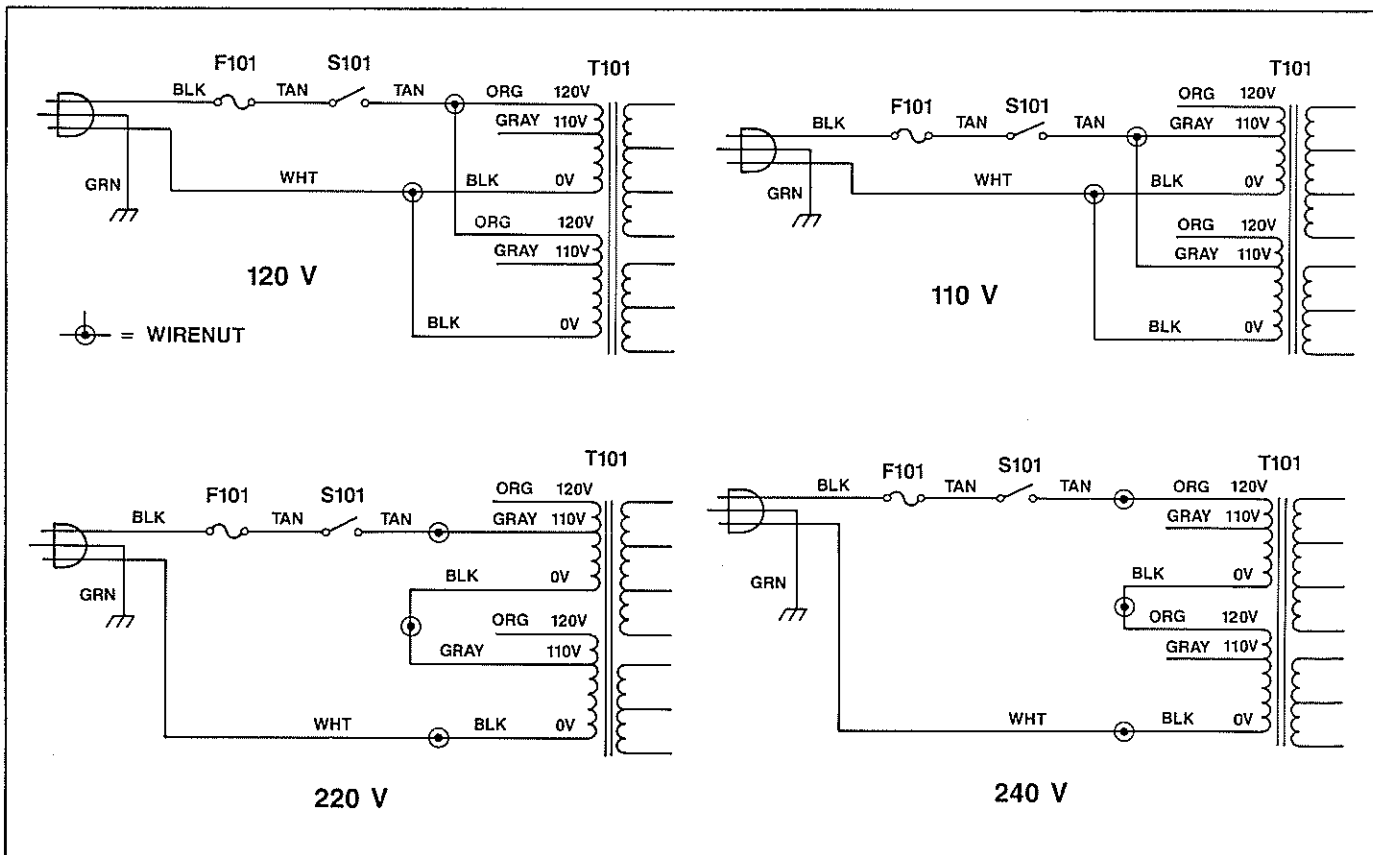

Fig. 17. Line Voltage Conversion.
The primary winding of the power transformer is tapped to permit operation from 110, 120, 220, or 240 VAC, 50/60 Hz line voltage. Conversion from one line voltage to another is done by a simple wiring change as shown in Fig. 17.
3. Rewire the power transformer to the desired line voltage as shown in Fig. 17. Insulate the ends of the unused transformer tap wires.